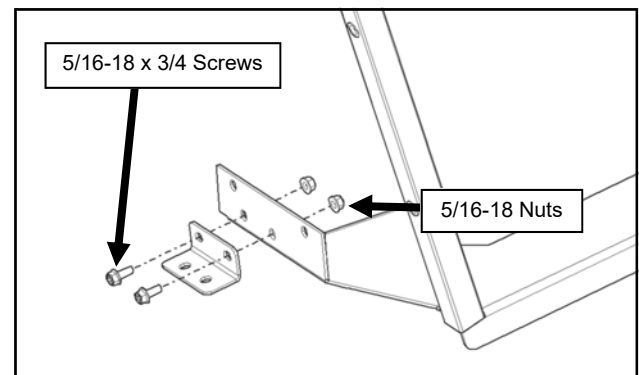

Fig. 3.2 (Pre-Assemble Bracket to A-Pillar)
- 3.2** Pre-assemble an A-Pillar mounting bracket to the left A-pillar. See Figure 3.2.